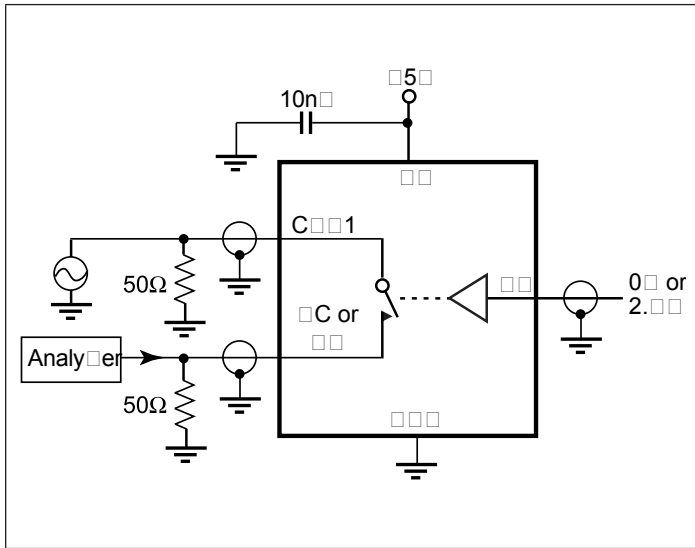

Figure 4. Off Isolation/On-Channel Bandwidth
8. Between any two switches. See Figure 4.
- Off Isolation = 20log₁₀ [V_{COM} / (V_{NO} or V_{NC})]. See Figure 4.
- Off Isolation = 20log10 [V_{COM} / (V_{NO} or V_{NC})]. See Figure 4.